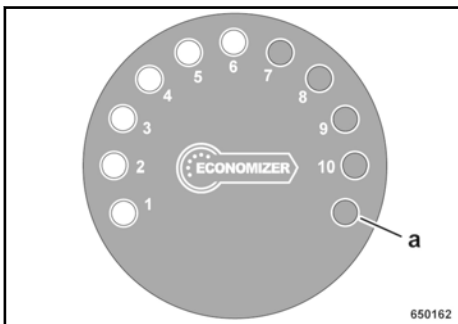

Fig. 55
The increasing number of yellow LEDs (1) - (10) ↪ Fig. 55 lighting up indicates the increase in compaction.